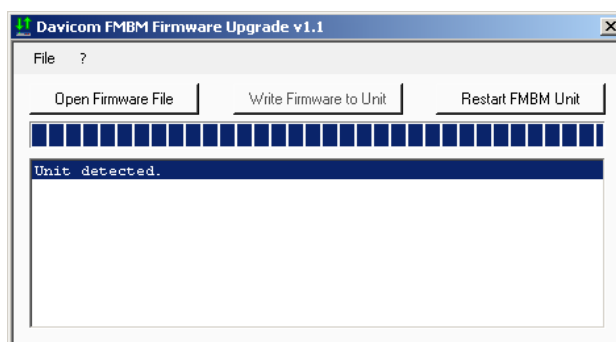

Figure 21 Firmware Upgrade Tool screen
1. Start the FMBMUpgradeTool program. The screen shown in Figure 21 will appear.